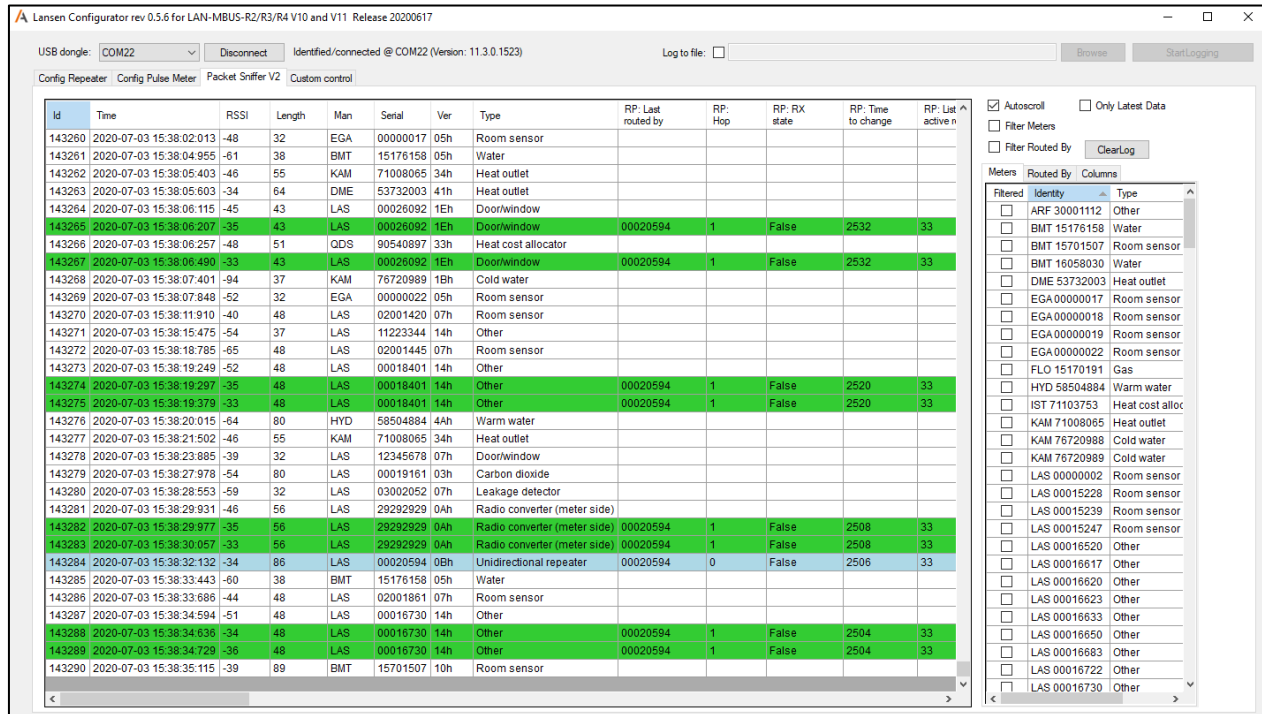

Figure 3: Overview for the page Packet Sniffer V2.
Our program, Lanssen Configurator, also includes a sniffer tab called *Packet Sniffer V2*. This page is seen in **Figure 3**. By using *Packet Sniffer V2*, henceforth called the Sniffer, one can observe all packets sent in the area, both by meters and repeaters.
Furthermore, there are a couple of options in **Figure 3**, located in the upper right corner, that can be used to sort out or filter out necessary data in the *primary list*.
**Note:** This option filters on the serial number in the column called **Last Routed By** in the *primary list* in **Figure 3**.
Columns. One thing to note in **Figure 3** is that each row is colored, and each color has a meaning. This is described in **Table 1** below. The reception depends on the *RP: RSSI*-column, i.e., how strong the signal is between the repeater and a meter.
This list is used as a complement to the options in chapter **Sniffer options** and changes what is displayed in the *primary list*. As seen in **Figure 3**, there are three tabs in this list: *Meters*, *Router By*, and *Columns*.